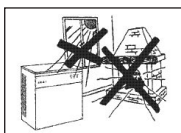
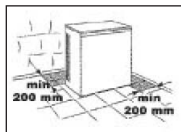

Fig 12.
Fig 14.
e) machine is away from sources of heat and in a sufficiently ventilated area. A distance of at least 20cm must be allowed between the sides, back and the walls of the machines (Fig.12, Fig.14).